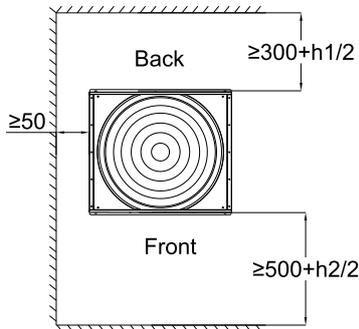

Figure 5
- Obstacles in the front, back and one side (see Figure 5)